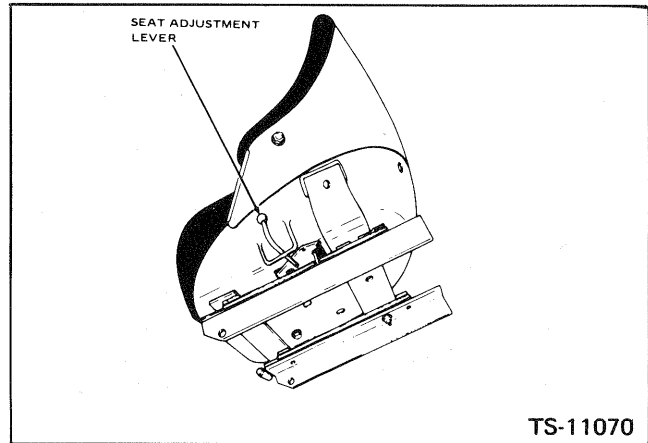

Fig. 2-2 Operators Seat Adjust Lever
27. **Seat Adjustment Lever** — The operator's seat can be shifted forward or backwards to suit the individual, by moving the lever on the left hand side of the seat forward and shifting the seat to the desired position. Fig. 2-2. An additional adjustment in the height of the seat is offered.